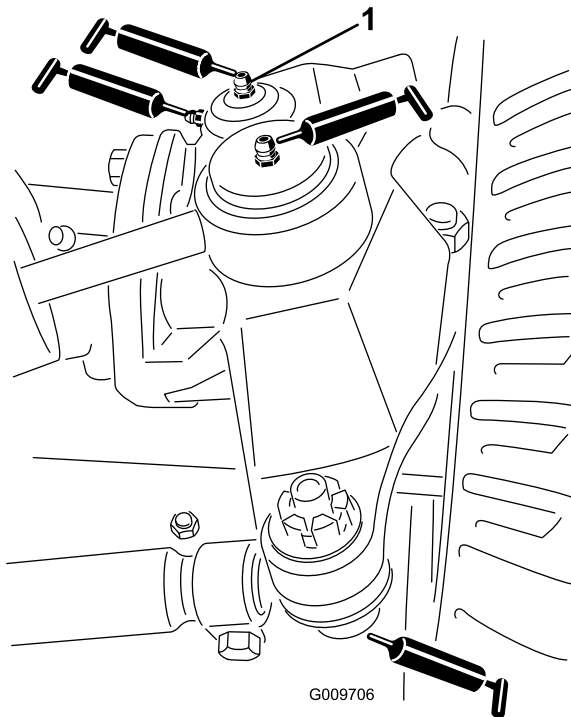

Figure 23
- Steering-cylinder ball joints (2) (Figure 23)
- Tie-rod ball joints (2) (Figure 23)
- Kingpin bushings (2) (Figure 23). **The top fitting on the king pin should only be lubricated annually (2 pumps).**